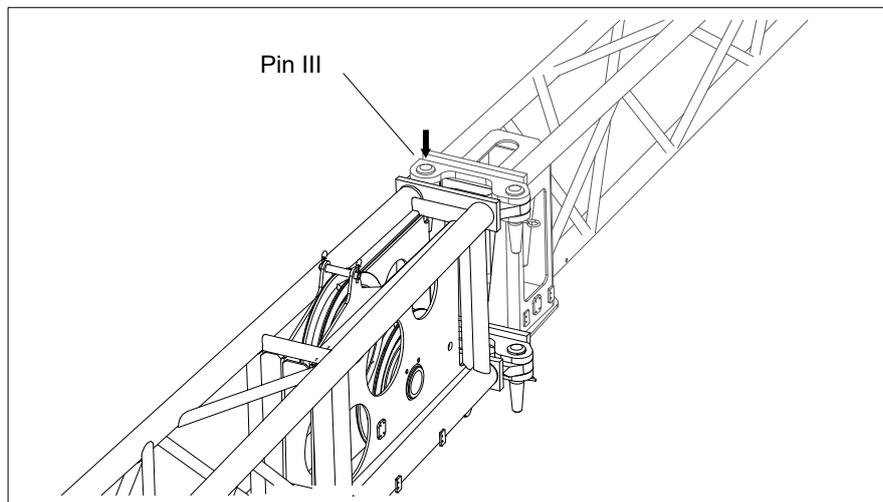

Figure 5-12 Pin III installation
- n) Align the end of the jib section 2 with the connection points on the left side of the jib section 1 head. Install the pin III and the retaining clip. See Figure 5-12.